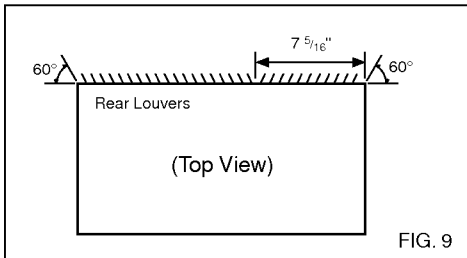

FIG. 9
- 1 Redirect the louvers at the back of the wall sleeve to 60° angle as shown in the FIG. 9. The use of pliers is recommended.